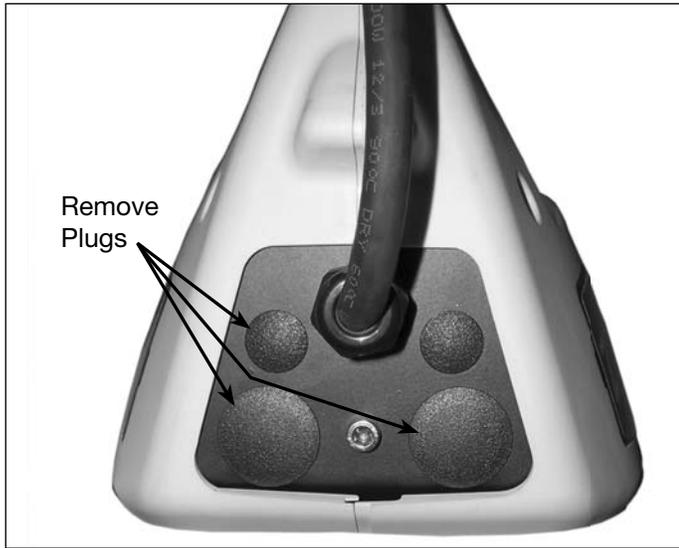

Figure 6, Plug Removal - Back Bracket
14. Remove three plugs from the pump back bracket in the locations shown. See Figure 6.
15. Slide a rubber grommet (item 123) on each hose. Cross the two hoses and insert the hose ends into the back bracket.
16. While keeping the rubber grommets close to the top, route the hoses down, slide a hose clamp (item 126) on each hose and press the hoses onto the hose barbs (item 12). Tighten the hose clamps.
17. Slide the rubber grommets (item 123) up and insert them into the holes in the back bracket.
18. Install the heat exchanger on the pump. The heat exchanger is secured by the two back corner cover plate screws (item 128), four gaskets (items 43, 129) and one top screw (item 124). Torque the two cover plate screws (item 128) to 50-60 inch lbs. [5.6-6.8 Nm]. Apply Loctite 243 to threads and torque top screw (item 124) to 120-144 inch lbs. [13.6-16.3 Nm].
19. Route the fan cable through the hole in the back bracket. The cord bushing comes assembled on the cord. Using the locknut (item 127), fasten the cord bushing to the back bracket. **Note:** The locknut is made of plastic. To prevent damage, be careful that it is not overtightened.